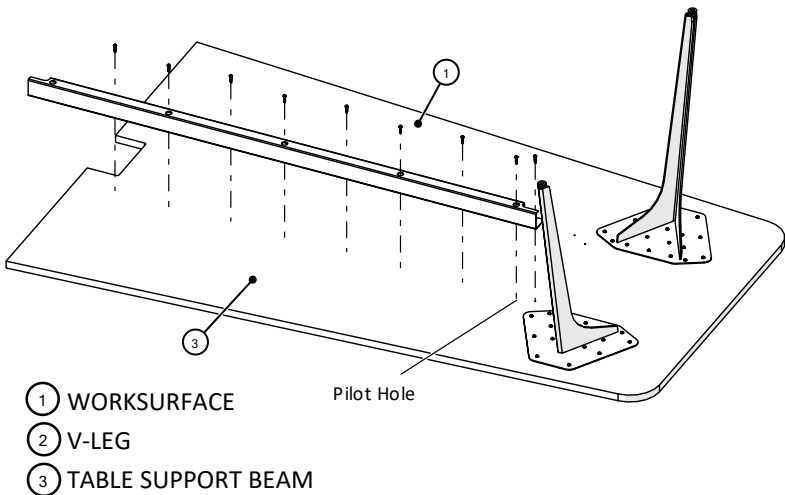

Figure 2
4. Position the Table Support Beam on underside of worksurface using the pre-drilled positioning holes. Attach the Table Support Beam to worksurface using the #10 x 1" Pan Head Screws, (Figure 2).